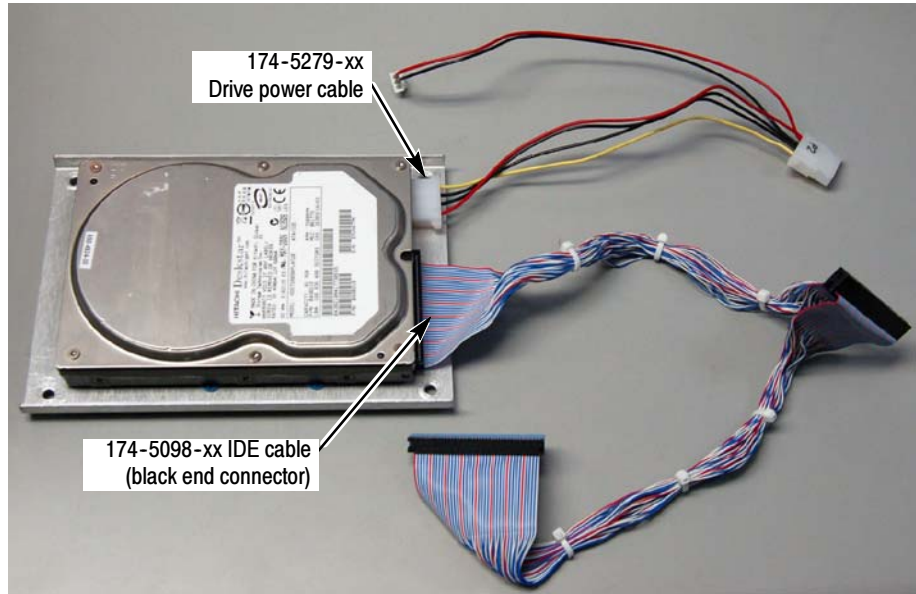

Figure 18: Attaching IDE and power cables to the hard drive
15. Connect the black connector end of the IDE cable (part number 174-5098-xx) to the hard disk drive. Connect the power cable (part number 174-5279-xx) to the hard disk drive. See Figure 18.